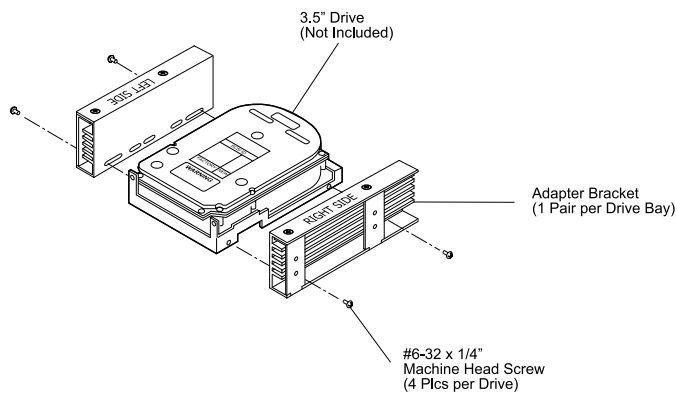

Figure 6: Attaching the 3.5" Adapter Bracket to the Drive
5. If installing 3.5" devices into the DS400, attach the 3.5 " adapter brackets (included) to the drives (Figure 6). The adapter brackets can be attached to the drive with four (4) #6-32 Phillips screws.